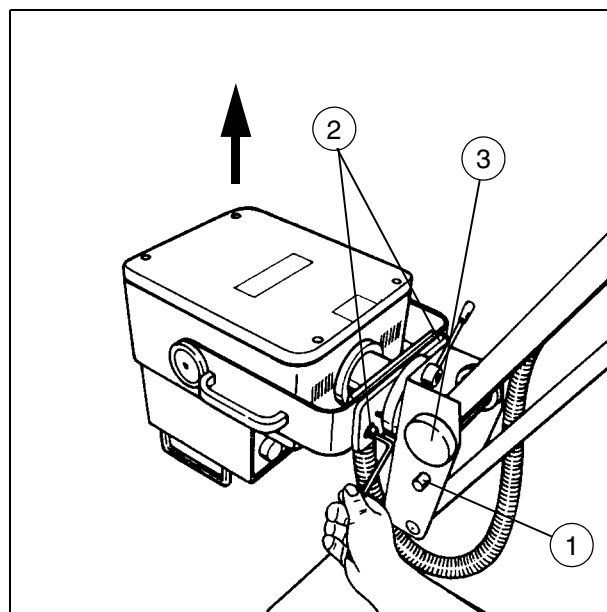

Fig. 1
- Move the arm system in the lowest position and check if the safety locking (pin 1/Fig. 1) has engaged.
- Tighten the turning knob(3/Fig. 1).
- Using an 8 mm Allen key, loosen the two screws on the bracket (2/Fig. 1) approx. two turns.